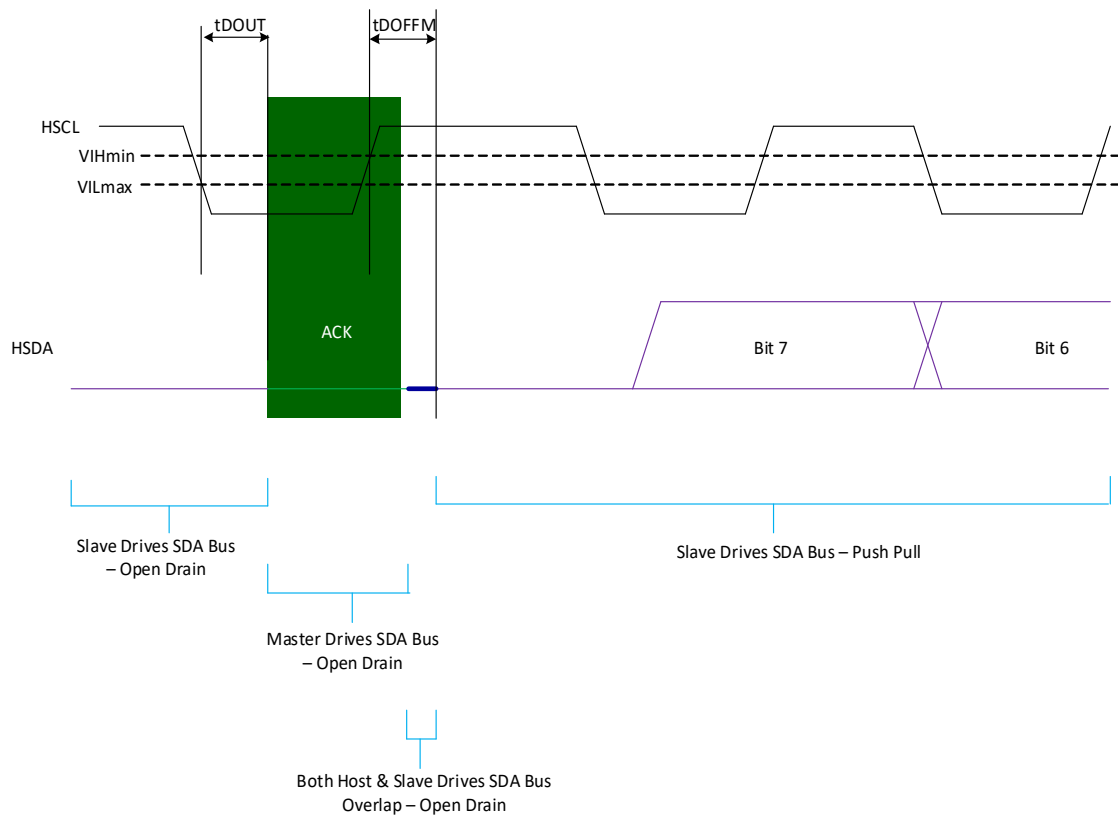

Figure 14. Master Open Drain (ACK) to Slave Push Pull Hand Off Operation
1. Figure 14 shows how the transition occurs from Host Open Drain (ACK) to Slave Push Pull Operation (1st bit of MDB Byte bit [7]).
1. Figure 14 shows how the transition occurs from Host Open Drain (ACK) to Slave Push Pull Operation (1st bit of Byte bit [7]).
- Figure 14 shows how the transition occurs from Host Open Drain (ACK) to Slave Push Pull Operation (1st bit of Byte bit [7]).